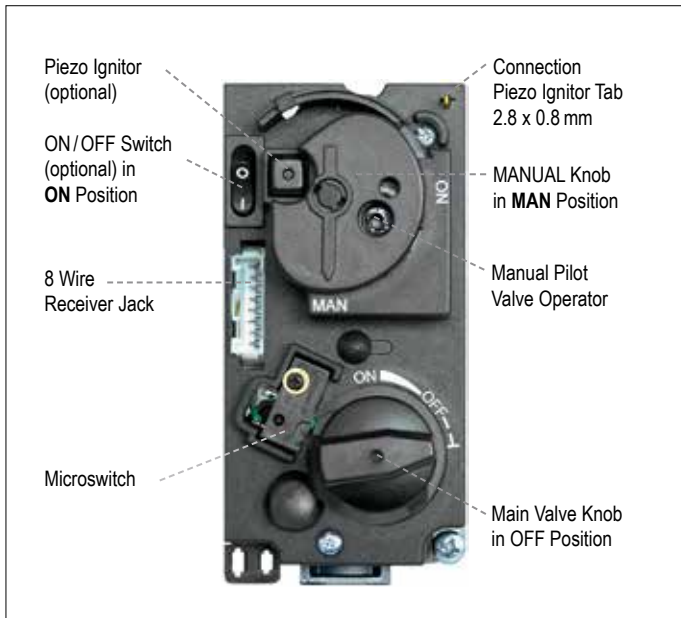

Figure 18: Combination control, cover
5. Wait five (5) minutes to clear out any gas. Verify that no gas is in the area around the appliance, including near the floor. **If you detect gas STOP! Follow “WHAT TO DO IF YOU SMELL GAS” in the safety information on page 2.** If no gas is present, proceed to step 6.
6. Place **ON/OFF** switch (if equipped) in **I (ON)** position.
8. Fully push down manual pilot valve operator and hold in, to start pilot gas flow (see figure 18, page 10).